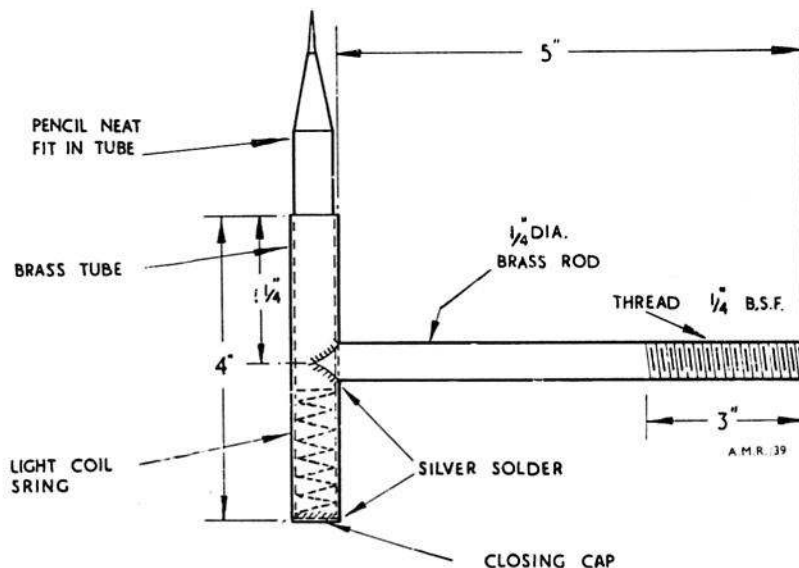

Fig. 12. Pencil holder
14. (1) The time-delay mechanism must operate in $\frac{1}{2} \pm \frac{1}{10}$ sec., and the method of testing is as follows:—
- (a) Make a pencil holder as shown in fig. 12.